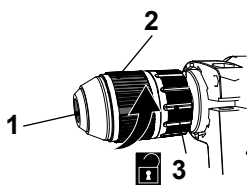
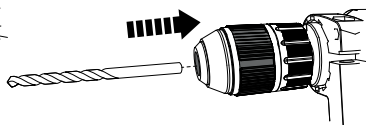

Fig. 1
Fig. 2
- > Hold the keyless chuck (3) in position and turn the chuck sleeve (2) anticlockwise until the chuck jaws (1) have opened wide enough to insert the drill bit (Fig. 1). Insert the drill bit all the way to the stop (Fig. 2).